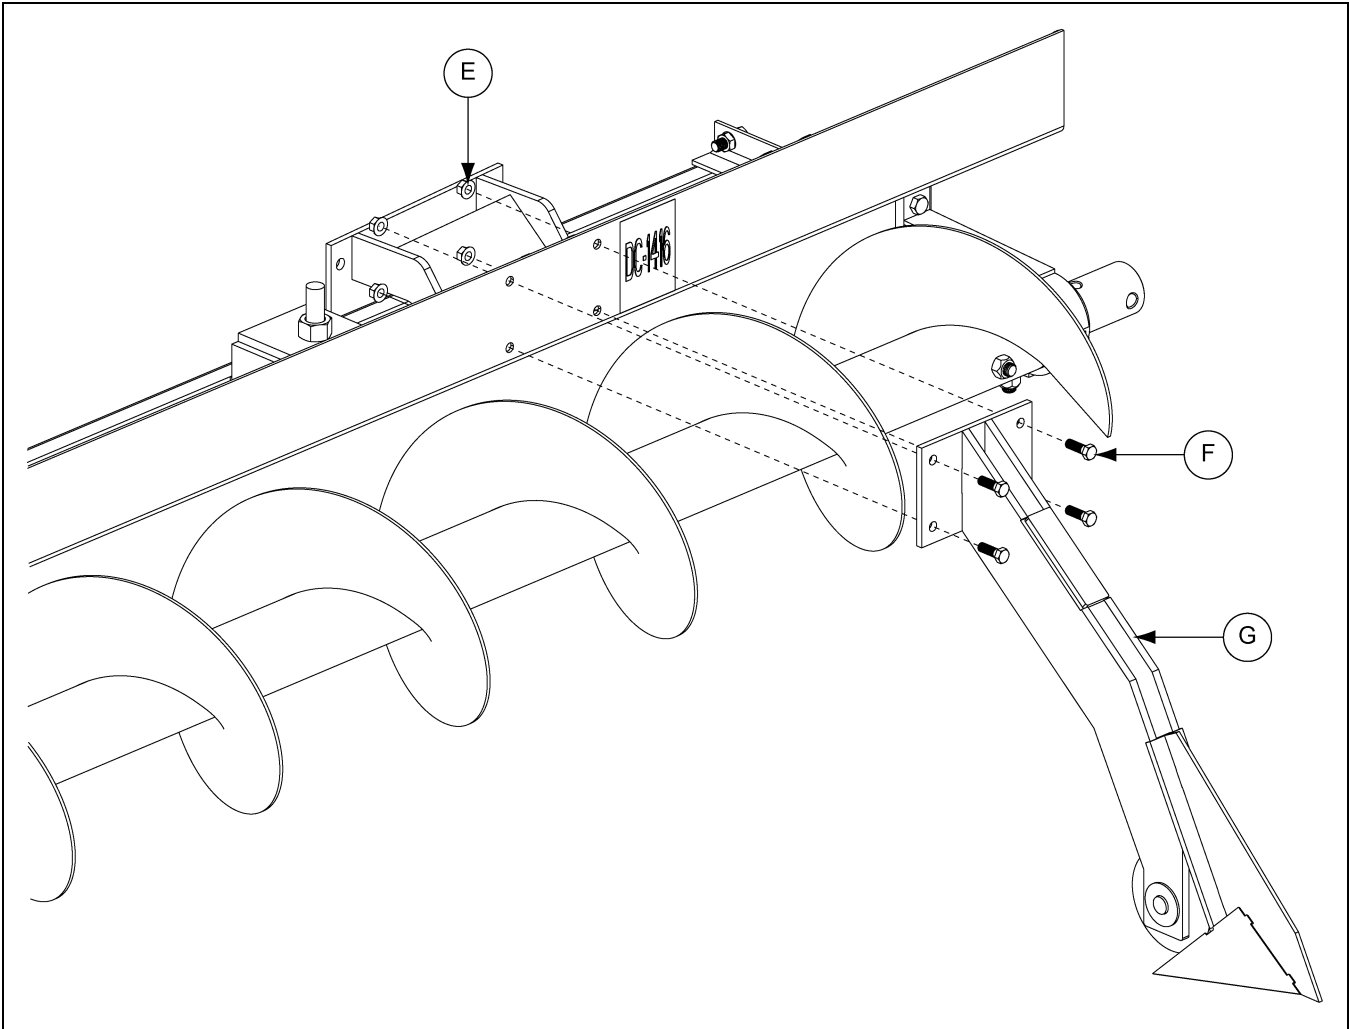

Figure 7AJ
2. Install all front wheel struts (G) using hex bolts (F) and flange nuts (E). (See Figure 7AJ.)